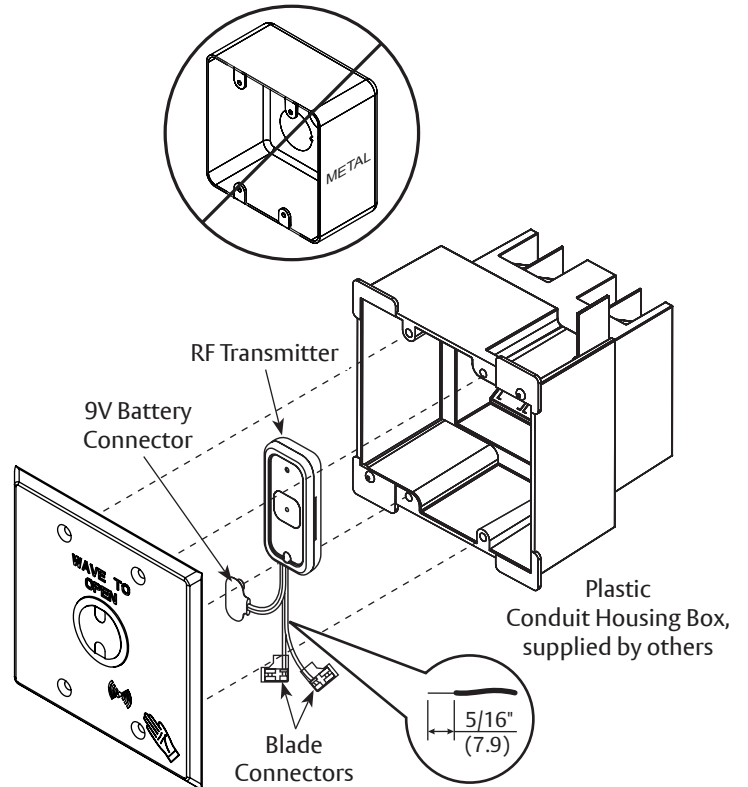

Figure 5
- A plastic conduit housing box is necessary. (Fig 5)
3. Strip sheath from each wire end exposing 5/16" (7.9) to prepare wires for connection. (Fig 5)
- Green wire to Normally Open (NO)
- White wire to Common (C).
5. Install 9V Battery to female battery connector. (Fig 5)